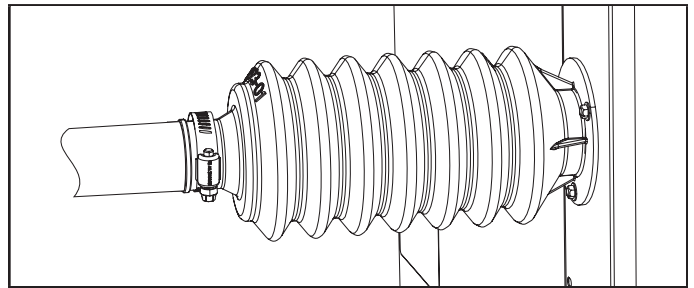

FIGURE 29. Band Clamp Installed on Sleeve
- 3 - Position the band clamp as shown in figure 29 and torque to 35 in-lbs to seal sleeve to line set.
- 2 - Position the band clamp as shown in figure 29 and torque to 35 in-lbs to seal sleeve to line set.